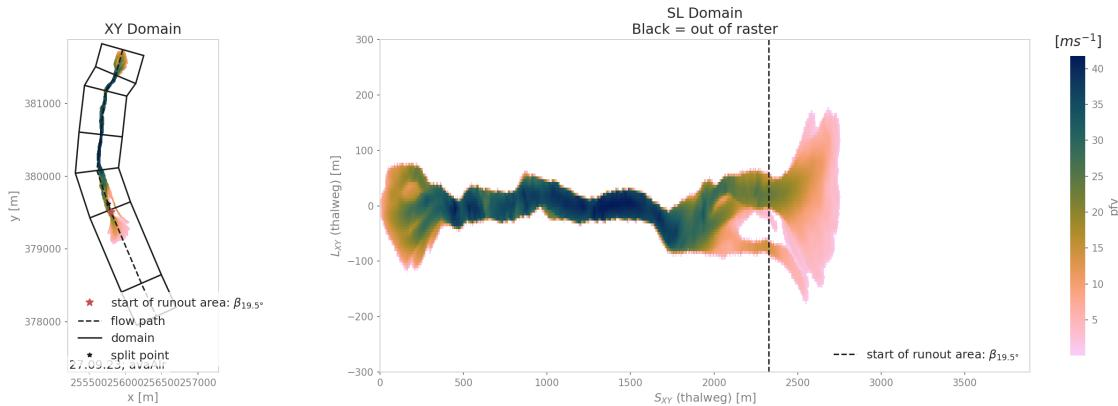

Fig. 5.15: Alr avalanche coordinate transformation and peak pressure field reprojection.
ana3AIMEC (Automated Indicator based Model Evaluation and Comparison, [Fis13]) is a post-processing module to analyze and compare results from avalanche simulations. For this purpose, avalanche simulation results are transformed into an avalanche *thalweg* following coordinate system (see Fig. 5.13, Fig. 5.14, Fig. 5.15), which enables the comparison of different simulations (for example varying parameter sets, or performed with different models) of the same avalanche catchment, in a standardized way.
There is the option to define a runout area for the analysis, which is based on the slope angle of the avalanche thalweg. This can be defined in the Aimec configuration by setting the *defineRunoutArea* flag to True. The start of runout area is then determined by finding the first point on the thalweg profile where the slope angle falls below the *startOfRunoutAreaAngle* value and all points upslope of the a additionally provided split point are ignored (see Fig. 5.15). This functionality requires an additional input:
- “DomainTransformation” shows the computational domain (xy) on the left and new thalweg-following domain (sl) on the right (Fig. 5.15)